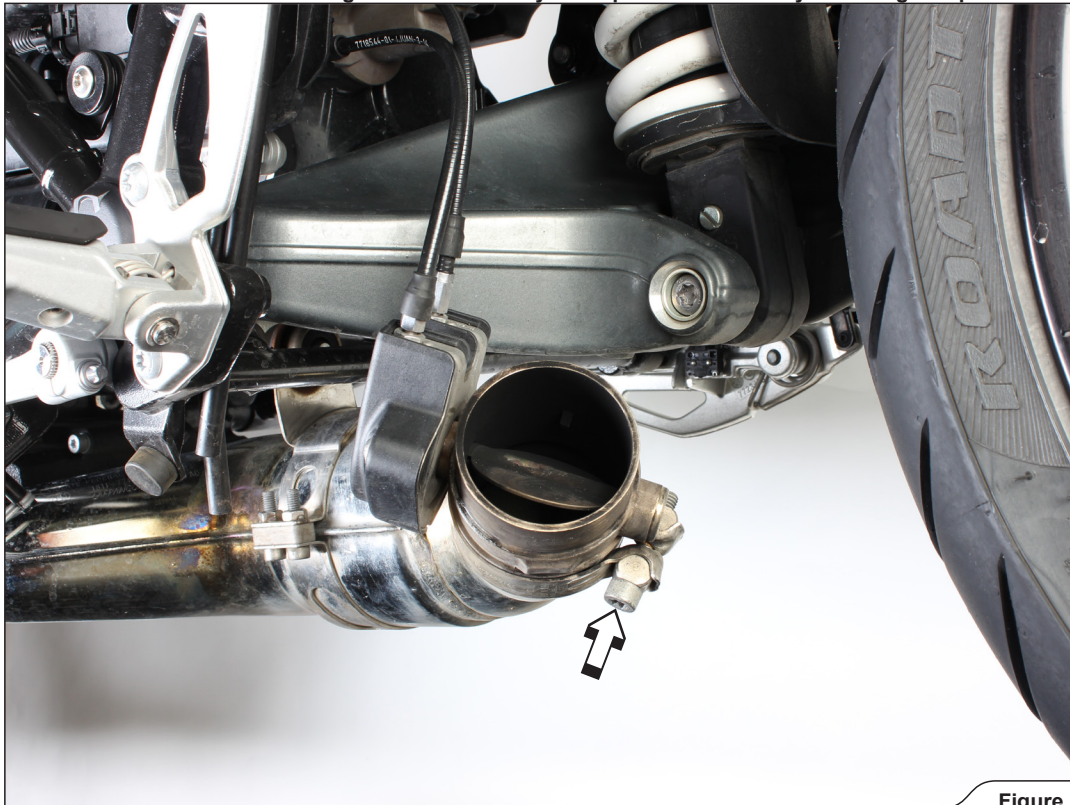

Figure 1
2. Loosen the marked exhaust valves' clamp and move the exhaust valve with exhaust valve cables out of the way (**Figure 1**).